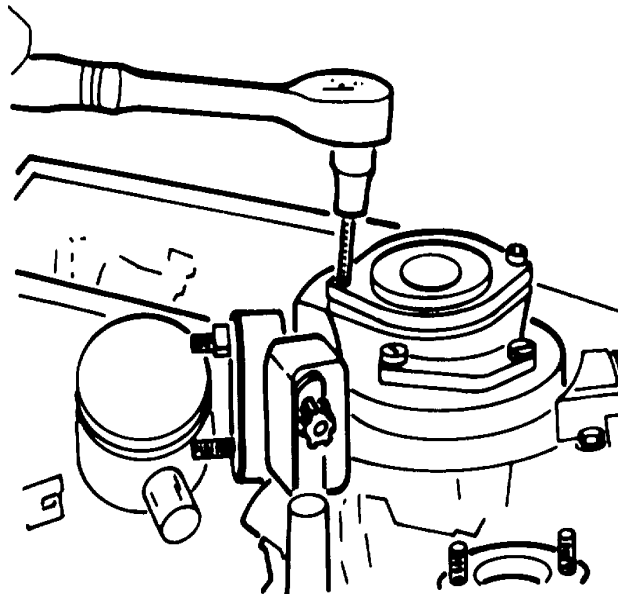

Figure A-22. Crank Handle Guide
q. Crank Handle Guide. Remove the two crank handle guide screws with a 5mm allen head wrench. Pull off the guide, o-ring and o-ring retainer. (Figure A-22.)